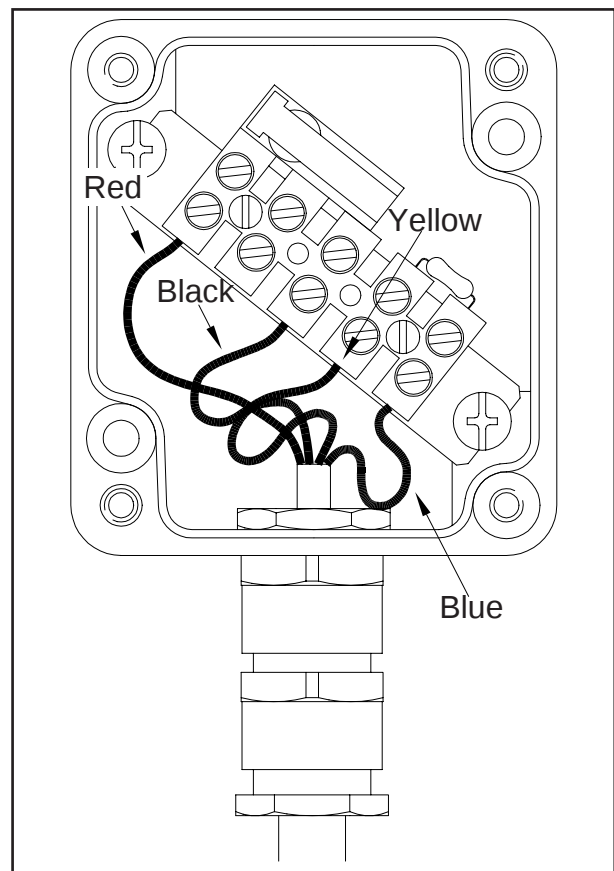

Figure 7
7. Connect the wires as shown in Figure 7. If necessary the connector block can be removed to facilitate connection of the wires.